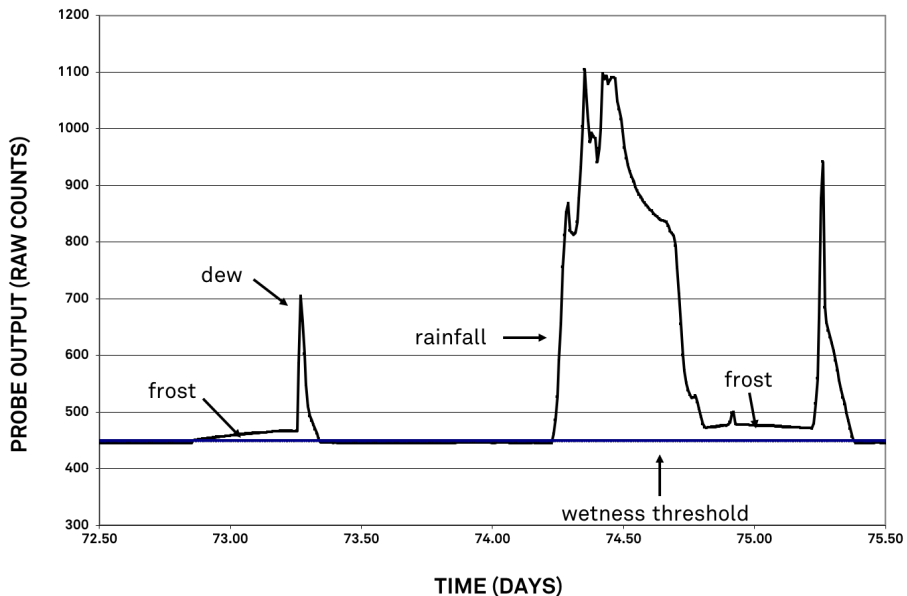

Figure 5 Example raw PHYTOS 31 output
A dry PHYTOS 31 outputs approximately 435 raw counts when read with METER data loggers. When the sensor is totally wet, as in a heavy rain, the signal can range up to around 1,100 counts. Varying amounts of water on the surface of the sensor cause a sensor output proportional to the amount of water on the sensor's surface. Ice has a much lower dielectric constant than that of liquid water, so the sensor output from frost is much lower than that from a similar amount of rain or dew (Figure 5).
- Column 3: The final reading in raw counts of the PHYTOS 31 during the wake interval. For example, if a 30-min wake interval has been chosen, the number in column 3 is the output in raw counts from the PHYTOS 31 during the last minute of that 30-min period. This data column can be used in the event of an extremely dirty PHYTOS 31, which may force the dry output higher than 460 raw counts. In this case, the user can identify a new wetness threshold from the time series data and calculate wetness duration from the new threshold until the sensor can be cleaned (Section 2.3.2). The data in this column only gives a wetness reading every wake interval (typically 30 min or more), instead of the 1-min wetness resolution available in column 1 and 2. This column can also be used for understanding the phase of the water, as shown in Figure 5, as well as the amount of water (as discussed in Predicting the amount of water on the surface of the PHYTOS 31 dielectric leaf wetness sensor).
With non-METER data loggers, the user needs to establish a wetness threshold for their system. The dry output of the PHYTOS 31 varies with excitation voltage (note that the acceptable excitation voltage range is 2.5 to 5.0 V). The PHYTOS 31 dry output is easily determined from time series data such as those presented in Figure 5. A wetness threshold should be chosen that is slightly above the dry output, and subsequent readings should be compared to the dry output to determine surface wetness. When using a non-METER data logger, it is important to collect data frequently enough to capture changes in the surface wetness. A sampling frequency of 15 min or less is often necessary to accurately capture leaf wetness duration.